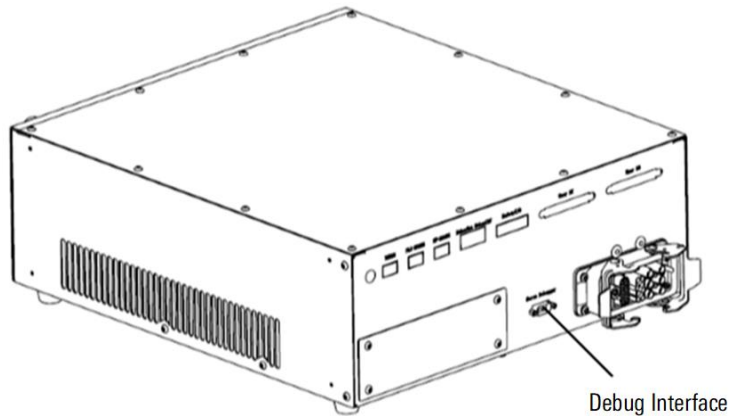

Figure 5-1 Control cabinet Servo Debugger interface
The Servo Debugger interface of the inCube22 control cabinet is a multi axes drive debugging interface located on the rear panel of the control cabinet, as shown in Figure 5-1. When debugging multi axis drive parameters, it is necessary to use an RS422 to USB cable to connect to the interface shown in Figure ①.